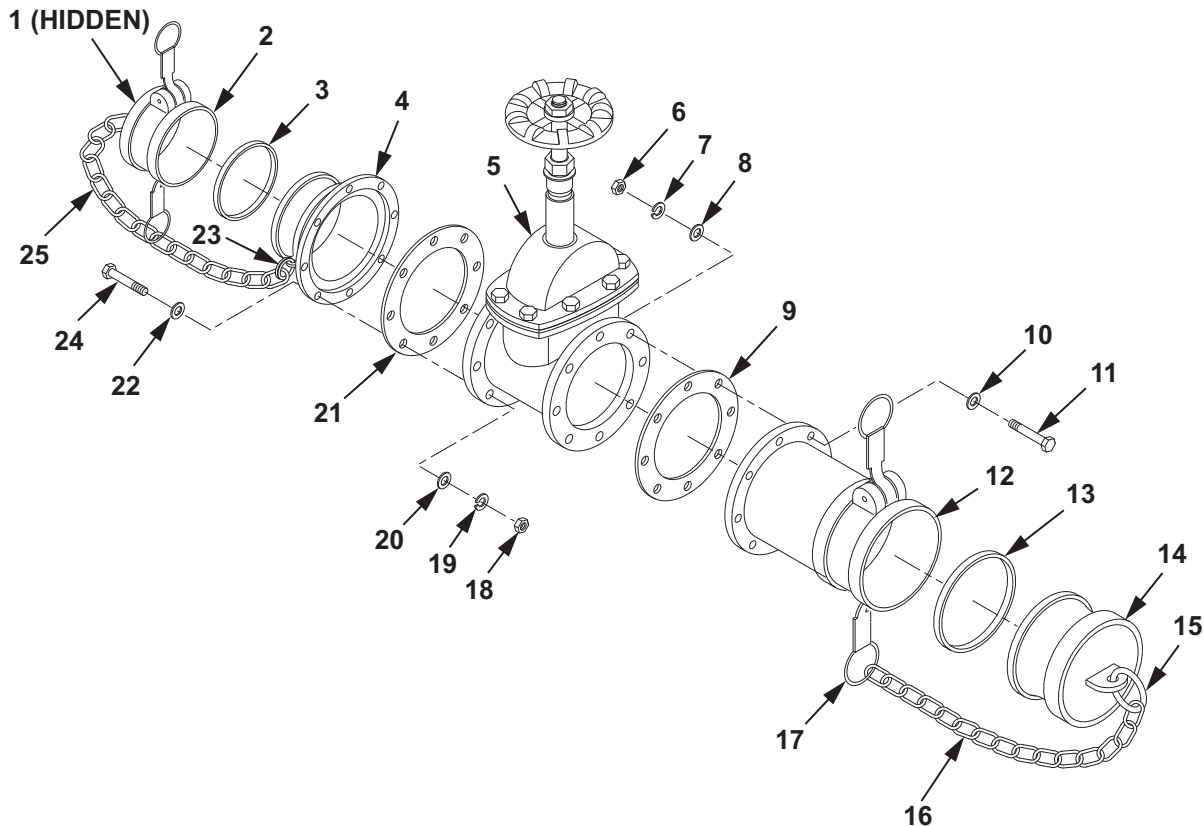

Figure 1. 4 In. Gate Valve Disassembly.
1. Remove quick disconnect dust cap (Figure 1, Item 2) and gasket (Figure 1, Item 3) from coupling (Figure 1, Item 4).
2. Remove quick disconnect dust plug (Figure 1, Item 14) and gasket (Figure 1, Item 13) from coupling (Figure 1, Item 12).
3. Remove eight screws (Figure 1, Item 24), washers (Figure 1, Item 22), washers (Figure 1, Item 20), lockwashers (Figure 1, Item 19), nuts (Figure 1, Item 18), coupling (Figure 1, Item 4) and gasket (Figure 1, Item 21) from gate valve (Figure 1, Item 5) flange.
4. Discard gaskets (Figure 1, Item 3, 13 and 21) and lockwashers (Figure 1, Item 10).
5. Remove eight screws (Figure 1, Item 11), washers (Figure 1, Item 10), washers (Figure 1, Item 8), lockwashers (Figure 1, Item 7), nuts (Figure 1, Item 6), coupling (Figure 1, Item 12) and gasket (Figure 1, Item 9) from gate valve (Figure 1, Item 5) flange.
6. Discard gasket (Figure 1, Item 9) and lockwashers (Figure 1, Item 7).
7. Remove split ring (Figure 1, Item 1) from quick disconnect dust cap (Figure 1, Item 2).
8. Remove split ring (Figure 1, Item 1) from chain (Figure 1, Item 25).
9. Remove split ring (Figure 1, Item 23) from chain (Figure 1, Item 25).
10. Remove split ring (Figure 1, Item 23) from coupling (Figure 1, Item 4).
11. Remove split ring (Figure 1, Item 15) from quick disconnect dust plug (Figure 1, Item 14).
12. Remove split ring (Figure 1, Item 15) from chain (Figure 1, Item 16).
13. Remove split ring (Figure 1, Item 17) from coupling (Figure 1, Item 12).
14. Remove split ring (Figure 1, Item 17) from chain (Figure 1, Item 16).